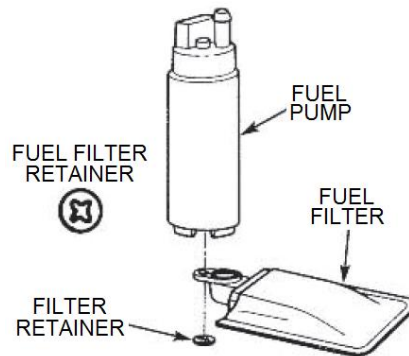

Figure 2
1. Install the new filter on the new pump inlet. Secure the filter to the pump by pressing the retainer onto the center post of the pump (Fig. 2).